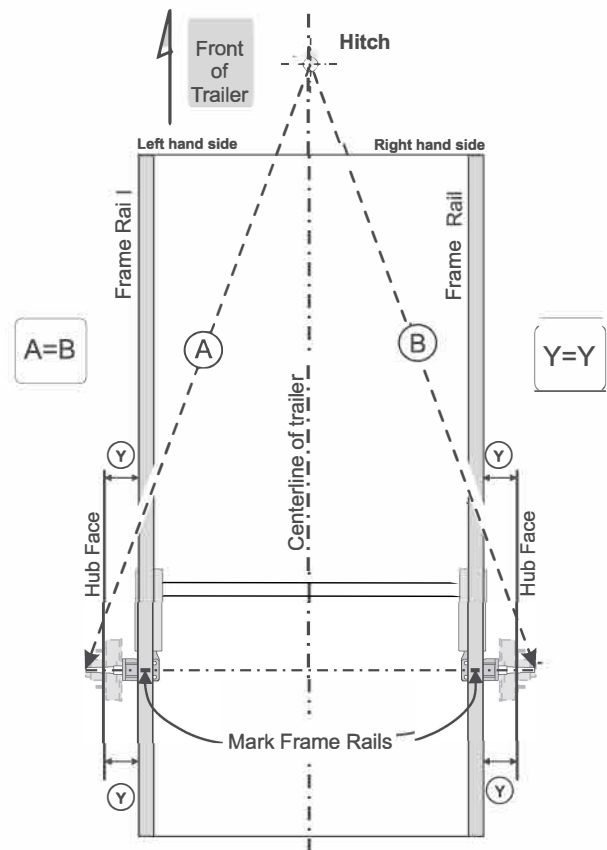

Fig. 2 Spindle Alignment (View from the top)
2. Make sure frame is perfectly square. Measure and compare the diagonal distances from one corner of frame to the opposite corner. Also measure and compare the distances from the hitch to each rear corner of frame. Ideally the measurements are identical (in each case the difference should be less than 1/8" (3 mm). Mark frame rails where centerline of spindles (wheels) should cross frame (fig. 2)⁽²⁾.
3. Locate the left hand and right hand side hangers on frame rails, opposite to each other. Move hangers along frame rail until center of spindles line up with marks on the frame rails, viewing from top (fig. 2). Clamp hangers to frame. Measure and compare distances "A" and "B". Reposition hangers until the difference between "A" and "B" measurements is less than 1/8" (3 mm).